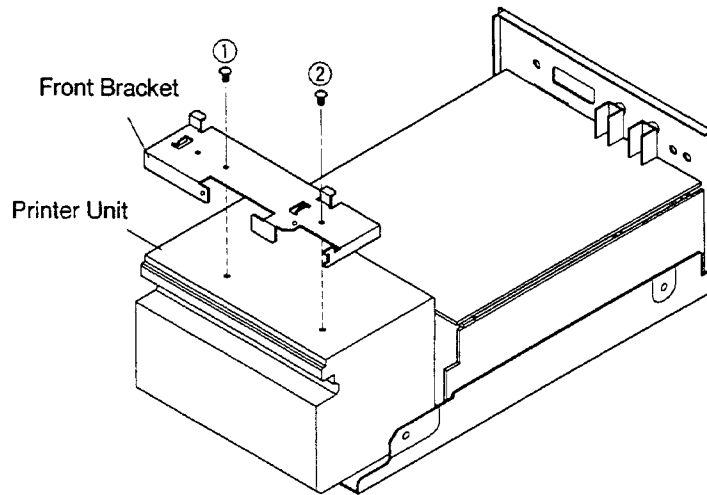

Fig. 8
2. Remove two screws (① and ②) securing the Front Bracket shown in Fig. 8.